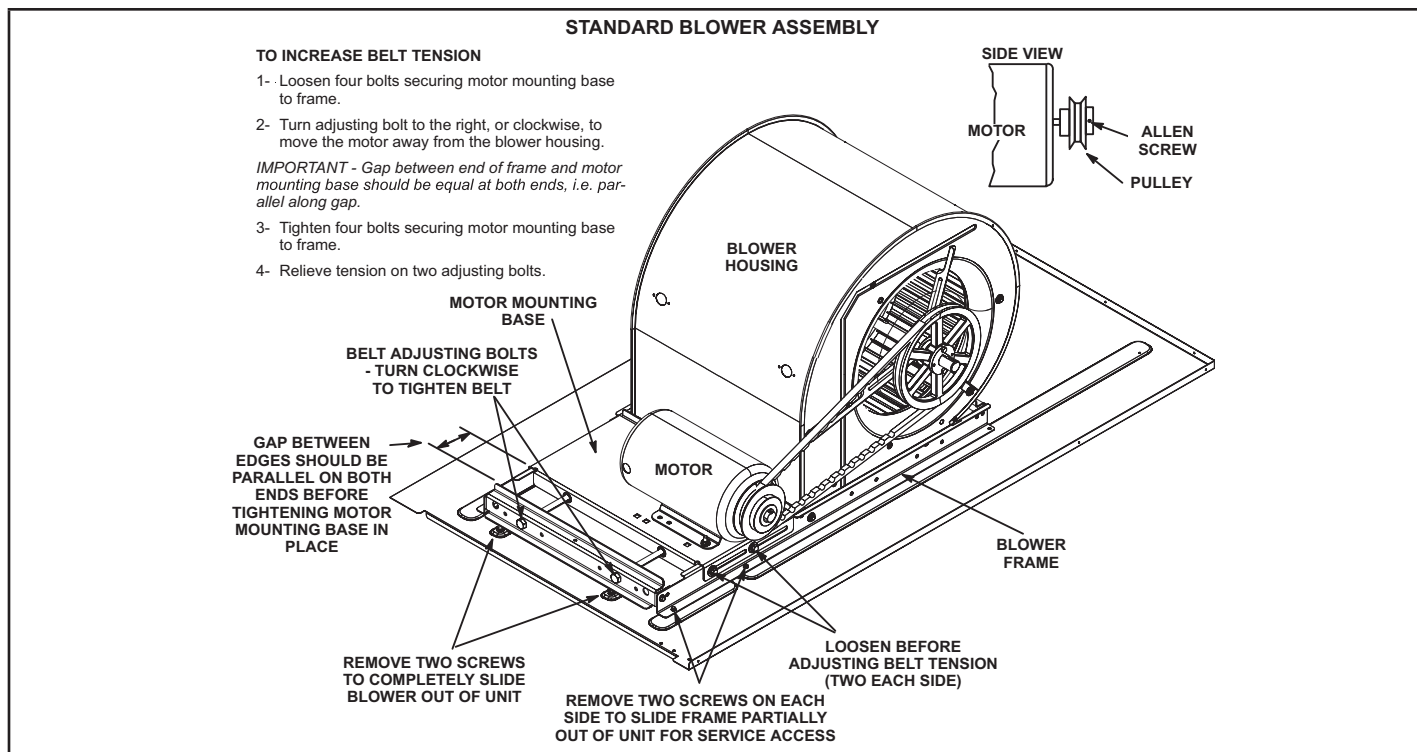

FIGURE 11
The blower assembly is secured to a sliding frame which allows the blower motor to be pulled out of the unit. See FIGURE 11.
- 4 - The blower RPM can be adjusted at the motor pulley. Loosen Allen screw and turn adjustable pulley clockwise to increase CFM. Turn counterclockwise to decrease CFM. See FIGURE 11. Do not exceed minimum and maximum number of pulley turns as shown in TABLE 5.
- 1 - Loosen four bolts securing motor base to mounting frame. See FIGURE 11.